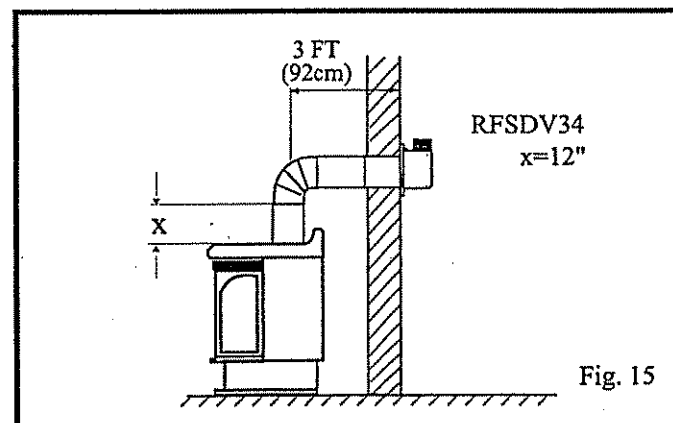

Fig. 15
- The maximum number of 90 degree elbows per side wall installation is three (3).
- For RFSDV34 models the maximum horizontal run off a minimum 12" vertical rise is 3'. (See Fig. 15)